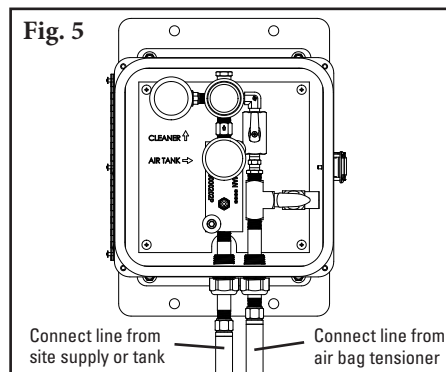

Fig. 5
5. **Reassemble the SAT XD Tensioner.** Remove three screws from air bag support plate (Fig. 4a). Turn the threaded insert into the support plate. Also turn part of the threaded insert into the hole on pole mount (Fig. 4b). Ensure 1/4" (6 mm) of threaded insert is still exposed, then turn the air bag onto the threaded insert and tighten (Fig. 5).